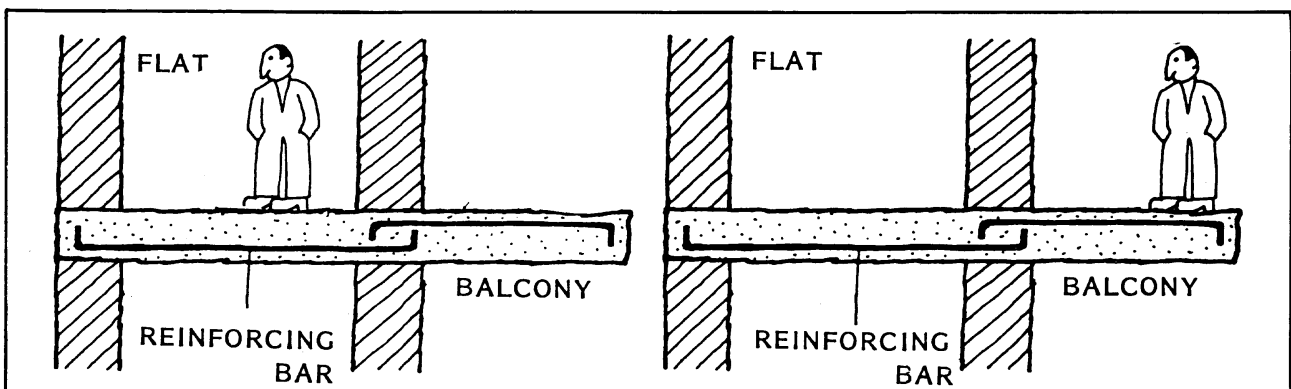

Figure 10
- 3 Look at the pictures in Figure 10 below. The reinforcing rod is at the top of the balcony beam, but at the bottom of the floor beam. Explain why.